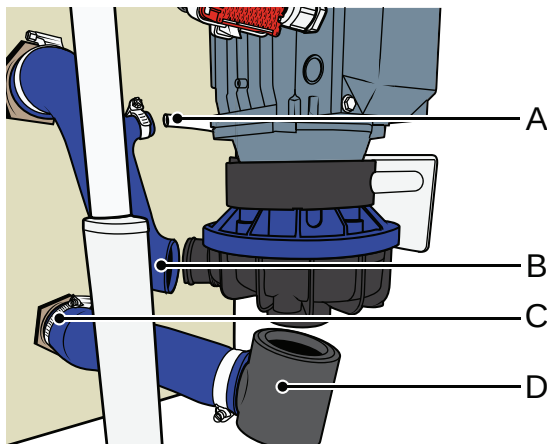

Figure 71
2. See Figure 71.
- Attach the hose and push back the elbow (D).
- Tighten the clamp (C).
- Put back the hose end and tighten the clamp (B).
- Connect the white disinfection pipe (A) and tighten the clamp.